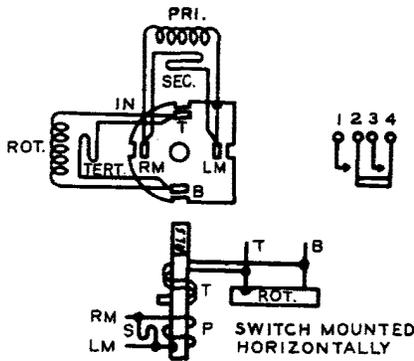

Fig. 110 - Winding and Spring Terminal Arrangement as Viewed From the Rear (terminal side) — 34-Type Signal
4.18 The contact and winding terminals of signals are designated as shown in Fig. 110 through 112.